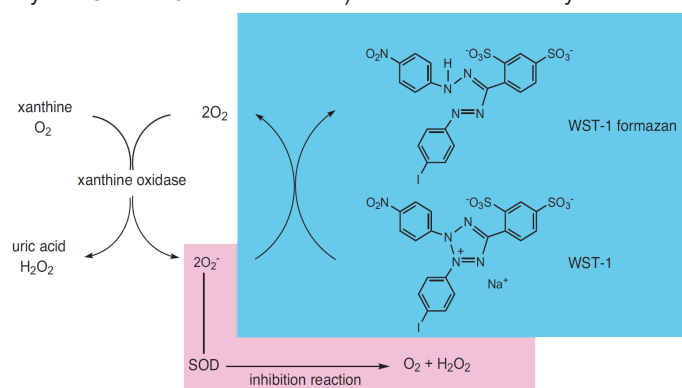

Fig.1 Principle of the determination of SOD activity using SOD Assay Kit - WST
Superoxide dismutase (SOD), which catalyzes the dismutation of the superoxide anion ($O_2^{\cdot -}$) into hydrogen peroxide and molecular oxygen, is one of the most important antioxidative enzymes. In order to determine SOD activity, several direct and indirect methods have been developed. Among these methods, the indirect method using nitroblue tetrazolium (NBT) is commonly used due to the convenience and ease to use. However, there are several disadvantages in the NBT method, such as poor water solubility of the formazan dye and the interaction with the reduced form of xanthine oxidase. SOD Assay Kit-WST allows very convenient SOD assay by utilizing Dojindo's highly water-soluble tetrazolium salt, WST-1 (2-(4-Iodophenyl)- 3-(4-nitrophenyl)-5-(2,4-disulphophenyl)-2H-tetrazolium, monosodium salt) that produces a water-soluble formazan dye upon reduction with the superoxide anion. The rate of the reduction of WST-1 with $O_2^{\cdot -}$ are linearly related to the xanthine oxidase (XO) activity, and this reduction is inhibited by SOD, as shown in Fig. 1. Therefore, the IC_{50} (50% inhibition activity of SOD or SOD-like materials) can be determined by the colorimetric method (Patent filing).